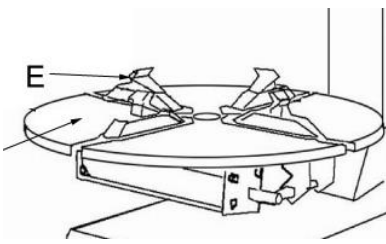

Fig 7.
- a. Clean the turntable once a week with diesel fuel so as to prevent the formation of dirt, and grease the clamp sliding guides. (Fig 7.)